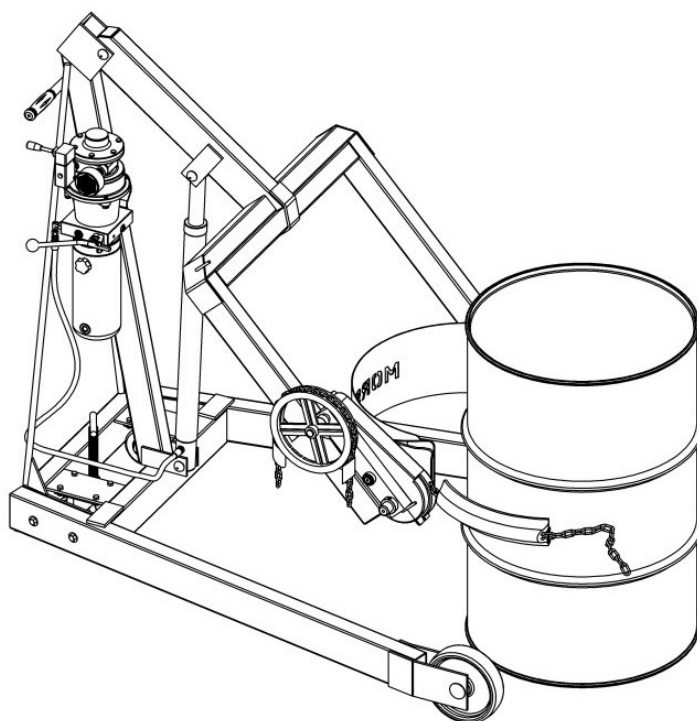

Figure 3.1
The screw-down floor lock is located on the base of the tower (figure 3.1). Turning the floor lock clockwise until it locks in the down position activates the floor lock. When the floor lock is activated it prevents unwanted free wheeling of the unit. Floor conditions determine the effectiveness of the floor lock. The operator should verify its holding action before depending on it to hold.
- 2.) Using the "LIFT" control as described in "**Machine Description - Controls**", position the drum holder assembly with the back band at the middle of the drum. (Figure 3.1). With the ratchet plate swung open and the cinch chain hanging from the chain hook, push the unit until the back band rests firmly against the drum. Some adjustment to the tilt angle of the saddle may be necessary to ensure band fits flush on the drum.